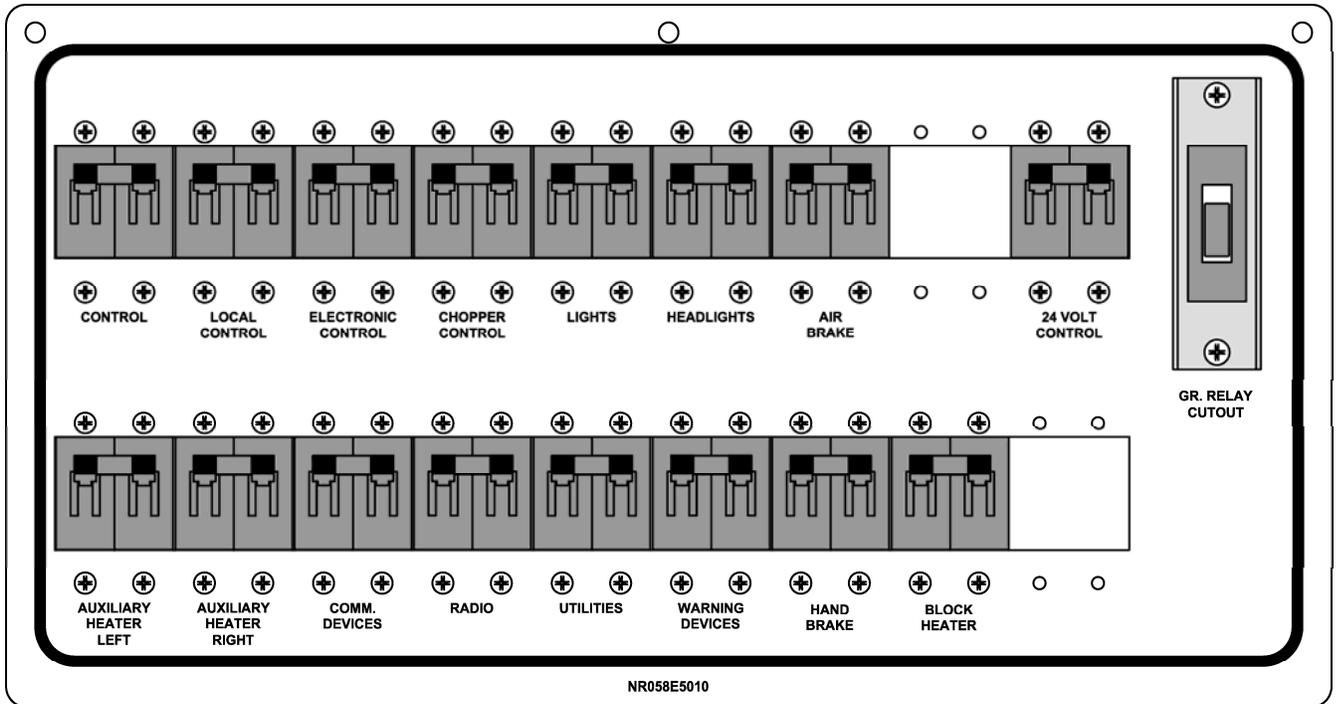
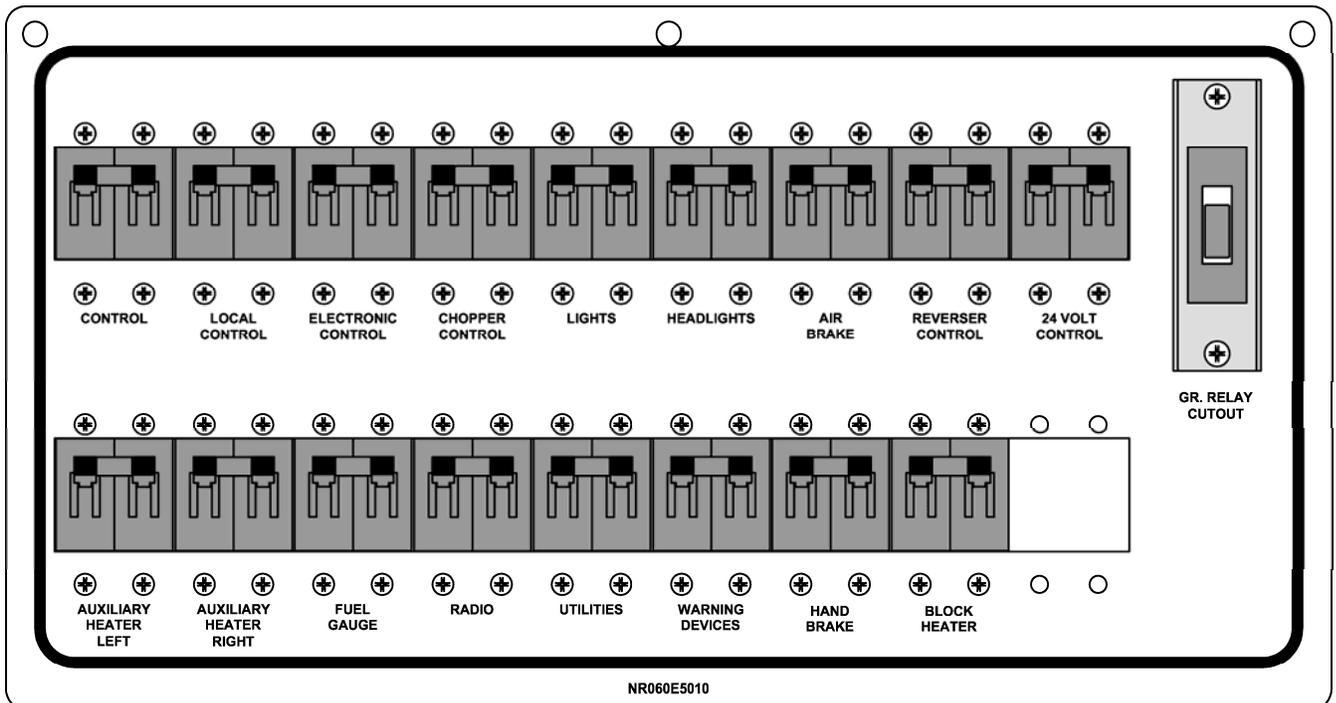

Figure 5-17 – Circuit Breaker Panel version 1*
Figure 5-18 – Circuit Breaker Panel version 2*
The circuit breaker panel is used to operate, isolate, and protect various systems on a locomotive. The breakers contained in the panel can be operated by the levers on the front of the panel. These breakers protect equipment and alert the operator of a problem by tripping when such an event occurs. If a breaker has a guard installed, it is meant to stay on at all times. Fig 5-17* and Fig 5-18*.
This breaker is exclusive to version 2 (Fig 5-18). It supplies power to the reverser module (RV) and must remain ON for proper operation of the locomotive.
This breaker is exclusive to version 2 (Fig 5-18). It supplies power to the fuel gauge system.